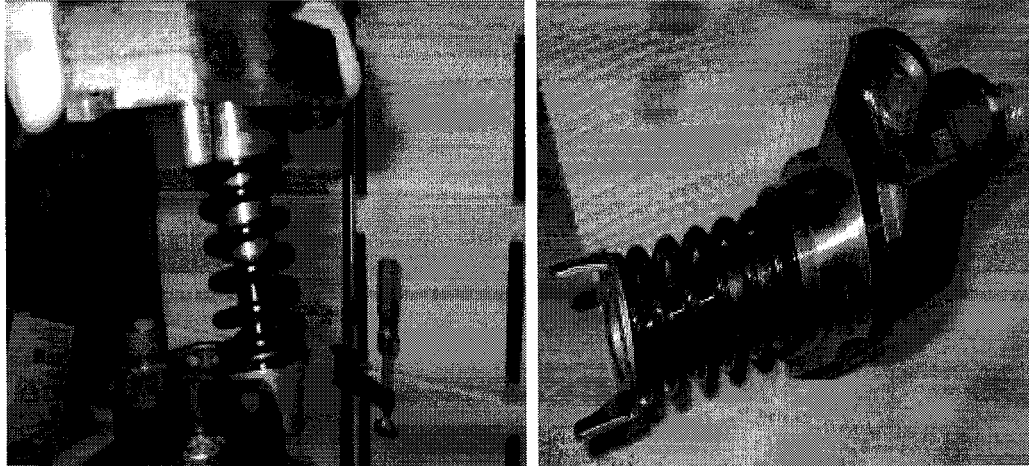

Figure 7 – Front Element Removal
11. Remove the front element and spring from the pump housing. See Figure 7.